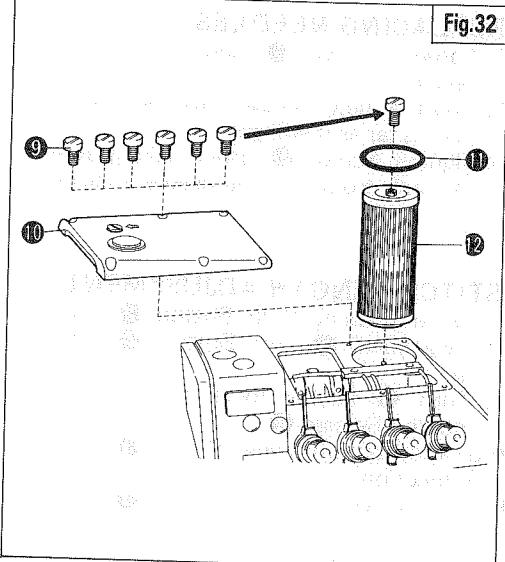

Fig.32
Refer to Fig. 32. Disassemble parts ⑨ – ⑪. Insert ⑨ into Filter ⑫ and take it out. Clean ⑫ or if necessary, replace it with a new one.